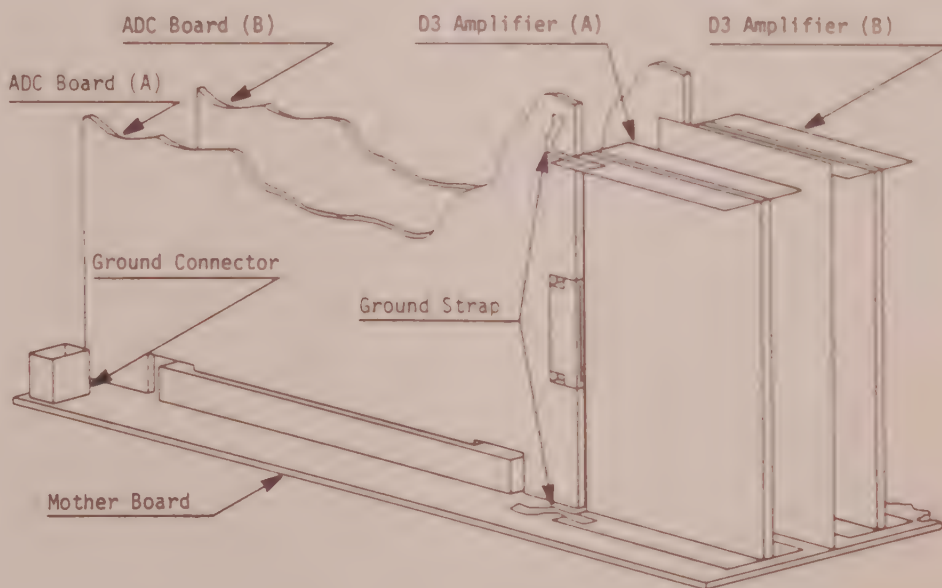

Figure 1-1
- 1.1.2. Disconnect the ground between the channel A D3 Amplifier and Mother boards, (Figure 1-1).